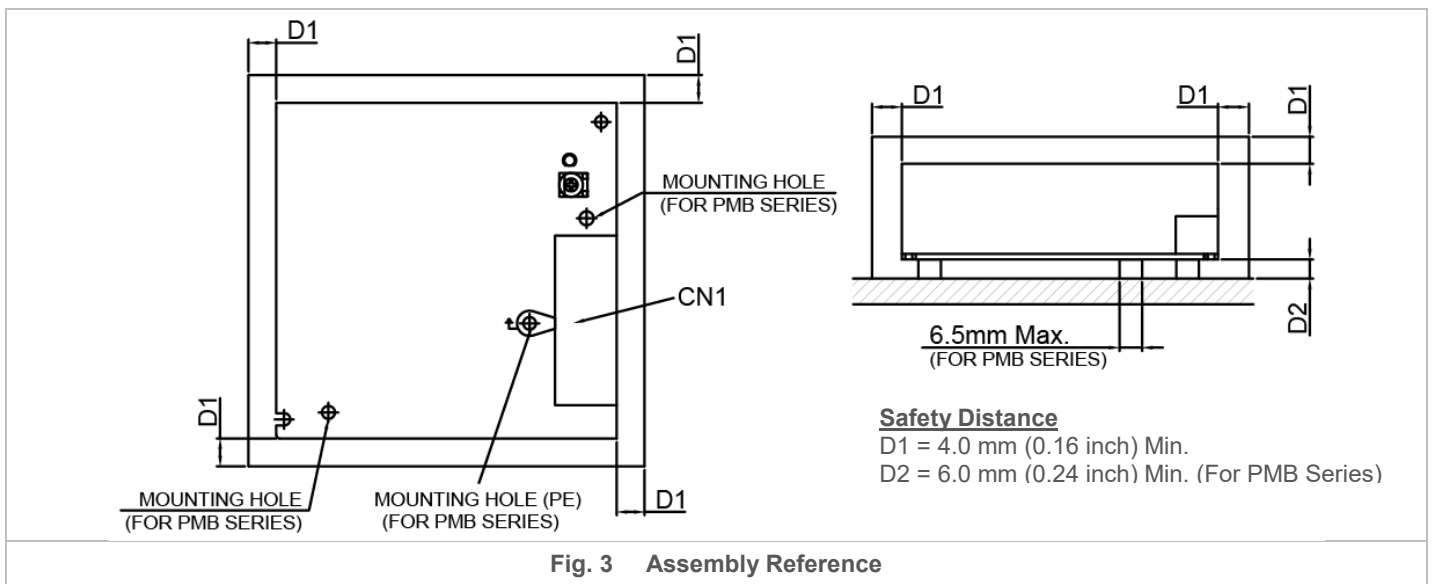

Fig. 3 Assembly Reference
- **PM□-24V35W1AA□ / PM□-24V35W1AG:** Use flexible cable (stranded or solid) of AWG No. 22-12. User should calculate and select the suitable wire specification (type/quantity/diameter) according to actual output current. The torque at the Connector shall not exceed 13 Kgf.cm (11.23 lbf.in). The insulation stripping length should not exceed 0.275" or 7 mm (Refer to Fig. 3).
- **For PMB Series: (Refer to Fig. 3):** The mounting holes on any mounting accessories for the device should be kept at a diameter of  $< 6.5$  mm (0.26 inch). This is to ensure sufficient safety distance between the mounting screw and the components around the mounting holes on the PCBA. Therefore, the diameter of the mounting screw should be kept at  $< 6.5$  mm (0.26 inch).